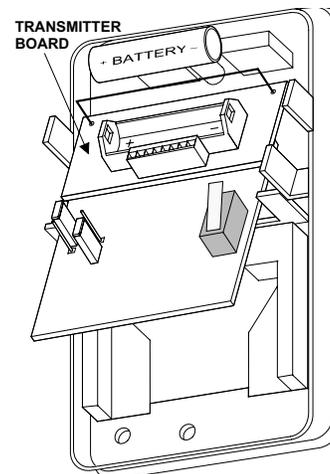

Figure 10. Removing the Transmitter Battery
2. Remove the transmitter (upper) circuit board battery (see Figure 10).